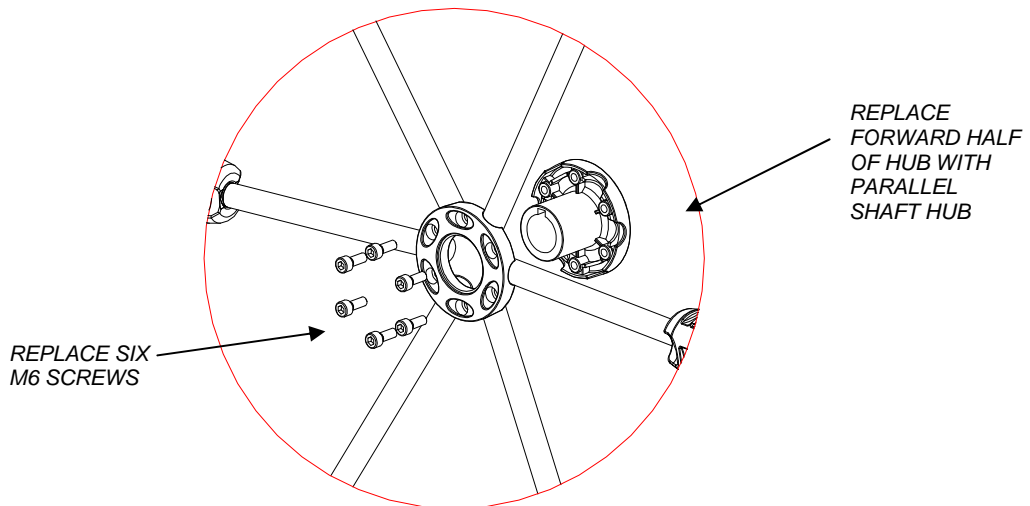

FIG 3 SHOWING PARALLEL SHAFT HUB AND FASTENERS READY TO ASSEMBLE
3. Replace this hub with the **PARALLEL** shaft hub, and fasten using the six M6 socket headed cap screws. (fig 3)